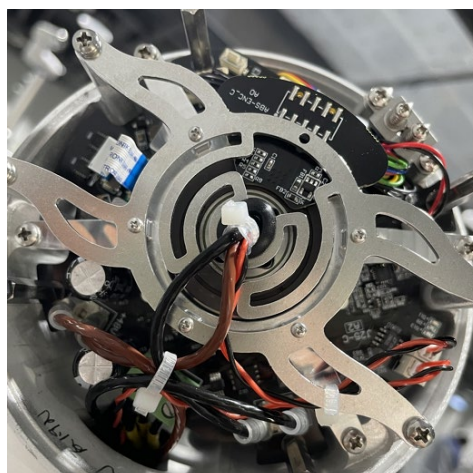

Figure 3-14 Reconnect the wires
- Reconnect the wires and tie them as shown in Figures 3-14: